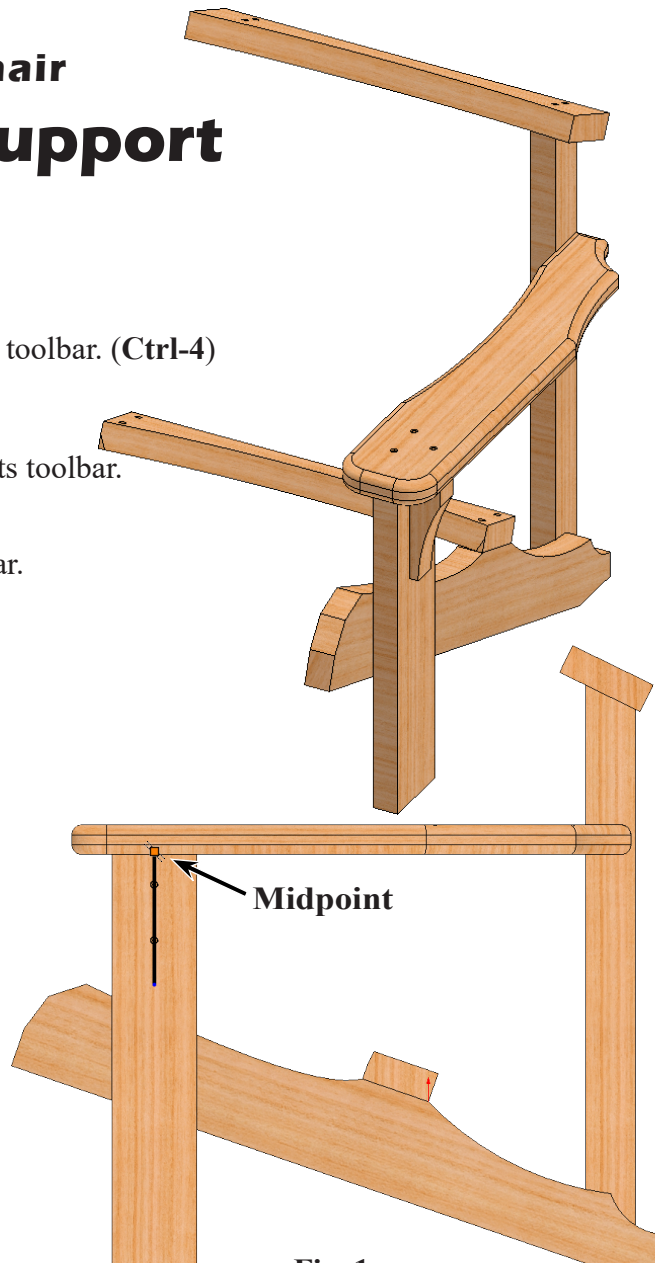
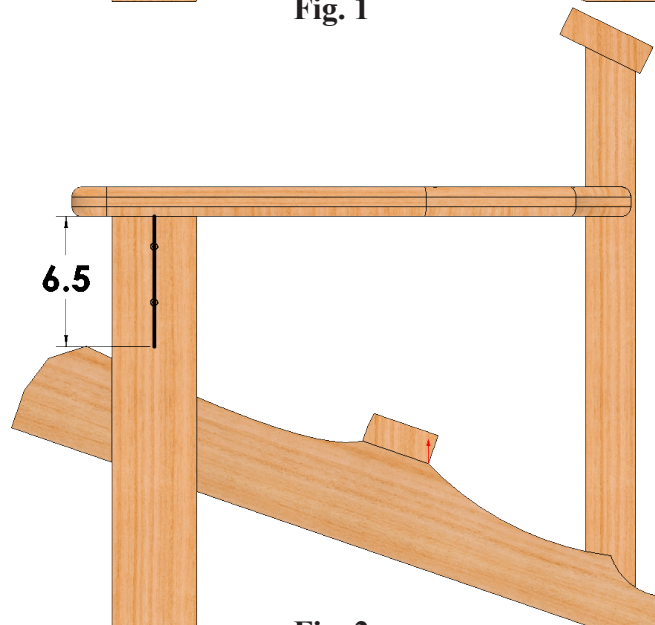

Fig. 1
Fig. 2
Step 4. Click **Line**  (L) on the Sketch toolbar.
Step 5. Cursor changes to YZ plane  indicating sketching in YZ plane. Sketch vertical line down from the Midpoint of the top end of Front Leg, **Fig. 1**. To sketch line on Y axis, move cursor to midpoint  at top of Front Leg, click when cursor changes to . Move cursor down along Y axis, when cursor changes to  (yellow Y) click.
Step 6. Click **Smart Dimension**  (S) on the Sketch toolbar.
Step 7. Dimension line **6.5**, **Fig. 2**.